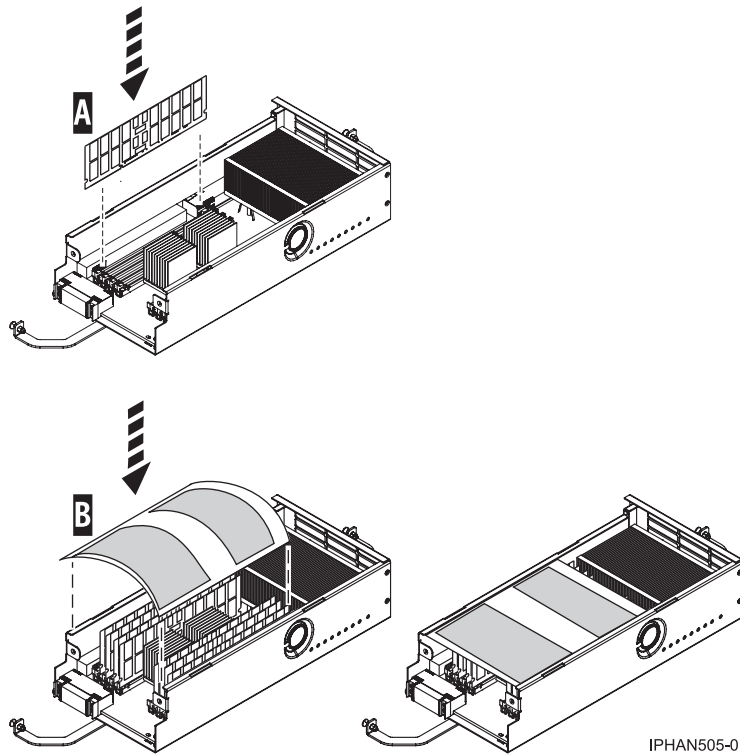

Figure 5. Plastic film cover placed over 4 GB or 8 GB memory modules
5. If you have tall 4 GB or 8 GB memory modules, use the plastic film cover to prevent the memory modules from contacting the lid. When you have finished inserting the memory modules **(A)**, place the plastic film cover **(B)** over them as shown in Figure 5 on page 12. If you replace tall 4 GB or 8 GB memory modules with any other size memory modules, remove the plastic film cover. If you do not remove the plastic film cover, it might restrict airflow in the unit.